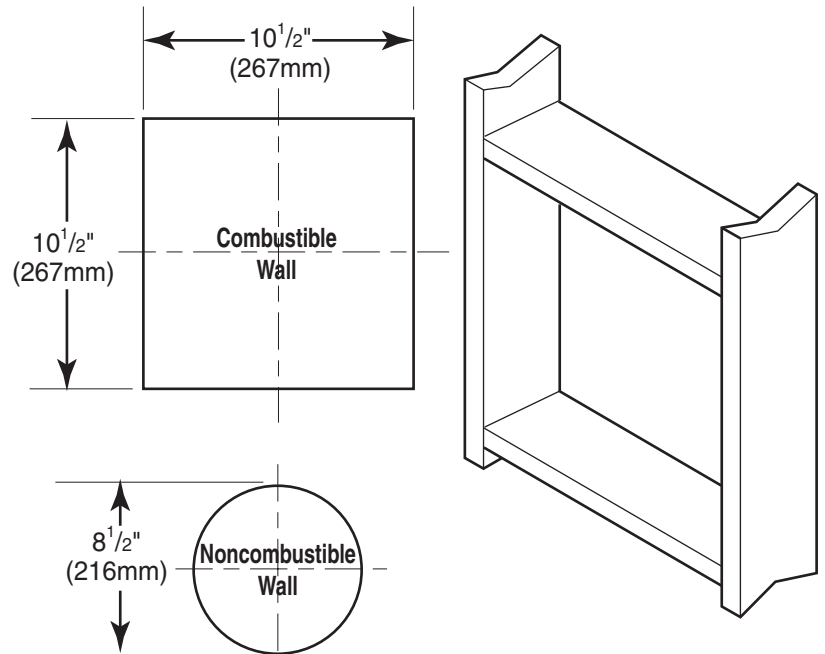

Figure 26 - Exterior Wall Framing Dimensions for 5"x8"
2. The center of the hole should line up with the center line of the horizontal rigid vent pipe end. Allow $\frac{1}{4}$ " minimum rise per foot. See Figure 26.